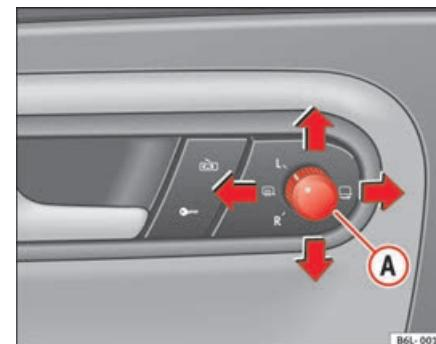

Fig. 71 Exterior mirror control
- Turn knob ⇒ fig. 71 to position **L (left exterior mirror)**.
- Turn the control to the demisting position ⇒ fig. 71.
- Turn the control \Rightarrow page 102, fig. 71 to position  to fold in the exterior mirrors. You should always fold in the exterior mirrors if you are driving through an automatic car wash. This will help prevent damage.